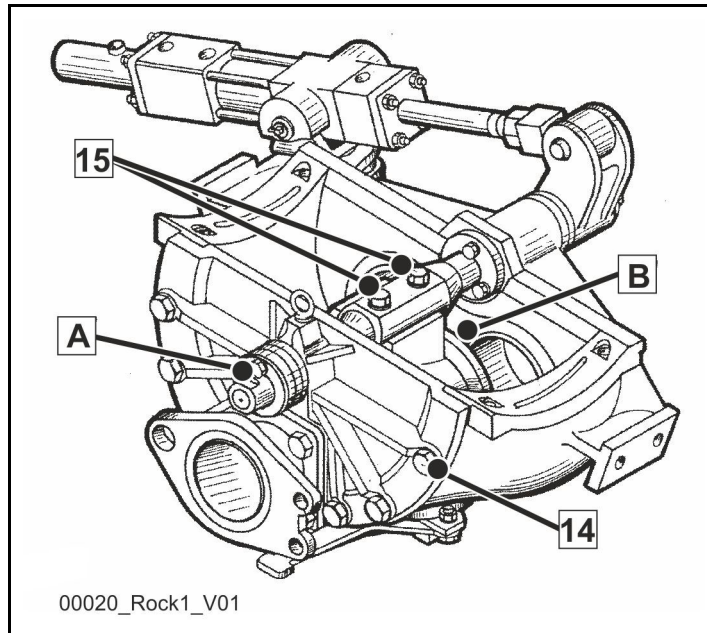

Fig. 324 Example
Regularly make sure that the cover screws (14) and clamping screws on the swivel head (15) are tight, in accordance with the maintenance schedule (**Fig. 324**).
Caption (Fig. 324)
The cutting ring and wearing insert on the housing lining are worn unevenly due to external influences (e.g. varying types of concrete) and different stresses in sub-areas (area "B", (Fig. 324)).